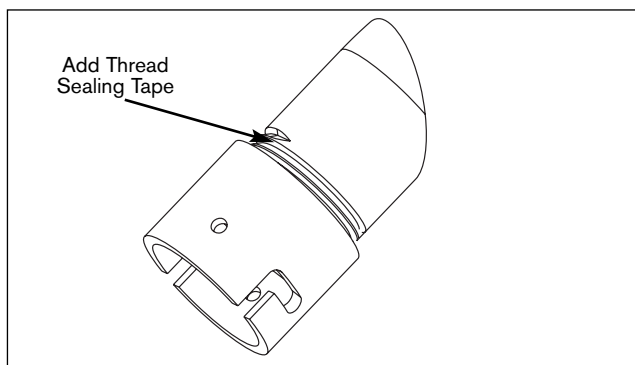

Figure 1 Housing Coupling
- 5.2.3 Pipe threads should be clean and rust free. Although a hermetic connector protects the inside of the enclosure from all moisture, it is still recommended that a thread sealer be used on the threads of the housing coupling. Attach the housing coupling to the bracket or pendant pipe (Figure 1).